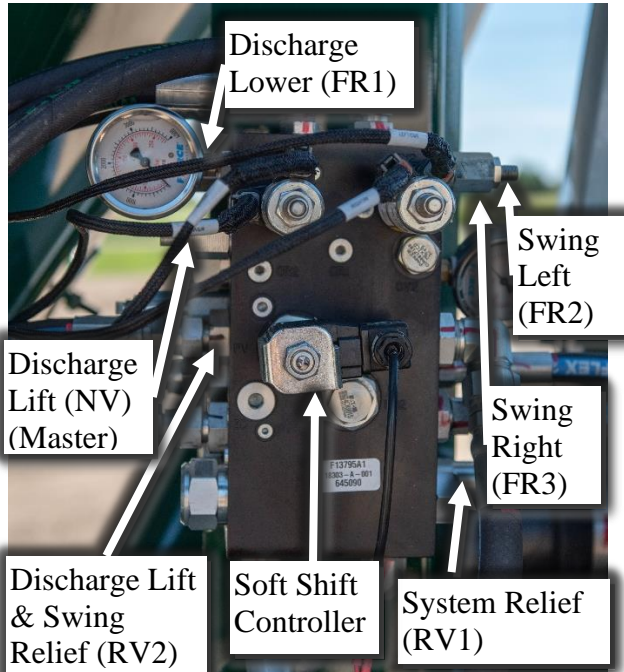

Figure 106 – Adjustment Screws and Manual Override for Discharge Cylinder Lift and Discharge Auger Swing Right.
Note: The discharge lift flow control (NV) is also the master flow control for both the discharge lift cylinder and swing motor (see Figure 106).
The manifold valve on the 8215 GM is equipped with an electronic soft start controller (see Figures 106 & 107) that slowly opens the solenoid valve controlling the hydraulic discharge auger motors eliminating the 'bangs' or hydraulic shocks associated with operating a hydraulic valve. The controller is set to jump to a preset 'step' voltage then 'ramp' up to maximum at a preset rate.